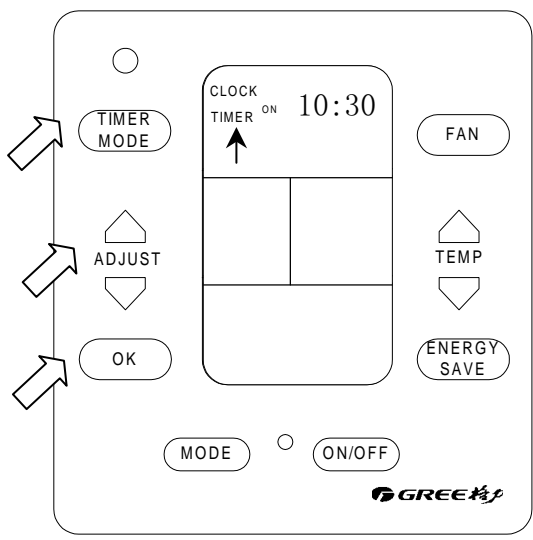

Fig.7: the LCD displays **TIMER ON** when setting the **TIMER** function
- ▴ display **TIMER ON (TIMER OFF)**, press “**OK**” button to choose timer.(Fig.7)